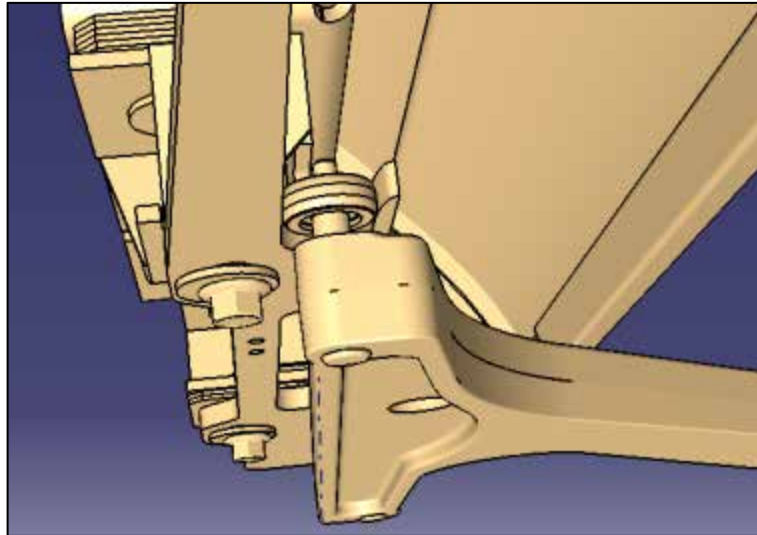

Figure 52
80. Move the door back and forth at the point of engagement of the roller in the fork. The roller should be properly centered in the slot opening without striking on either side of the fork. (Figure 52)